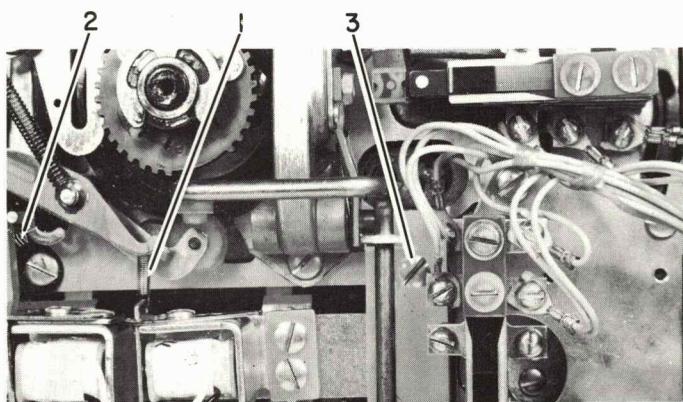

FIGURE 37. Shift Magnet Assembly Removal
1. Remove the spring from the hold armature (#1, Figure 37).
2. Loosen the front mounting stud (#2, Figure 37).
3. Loosen the rear mounting screw (#3, Figure 37).